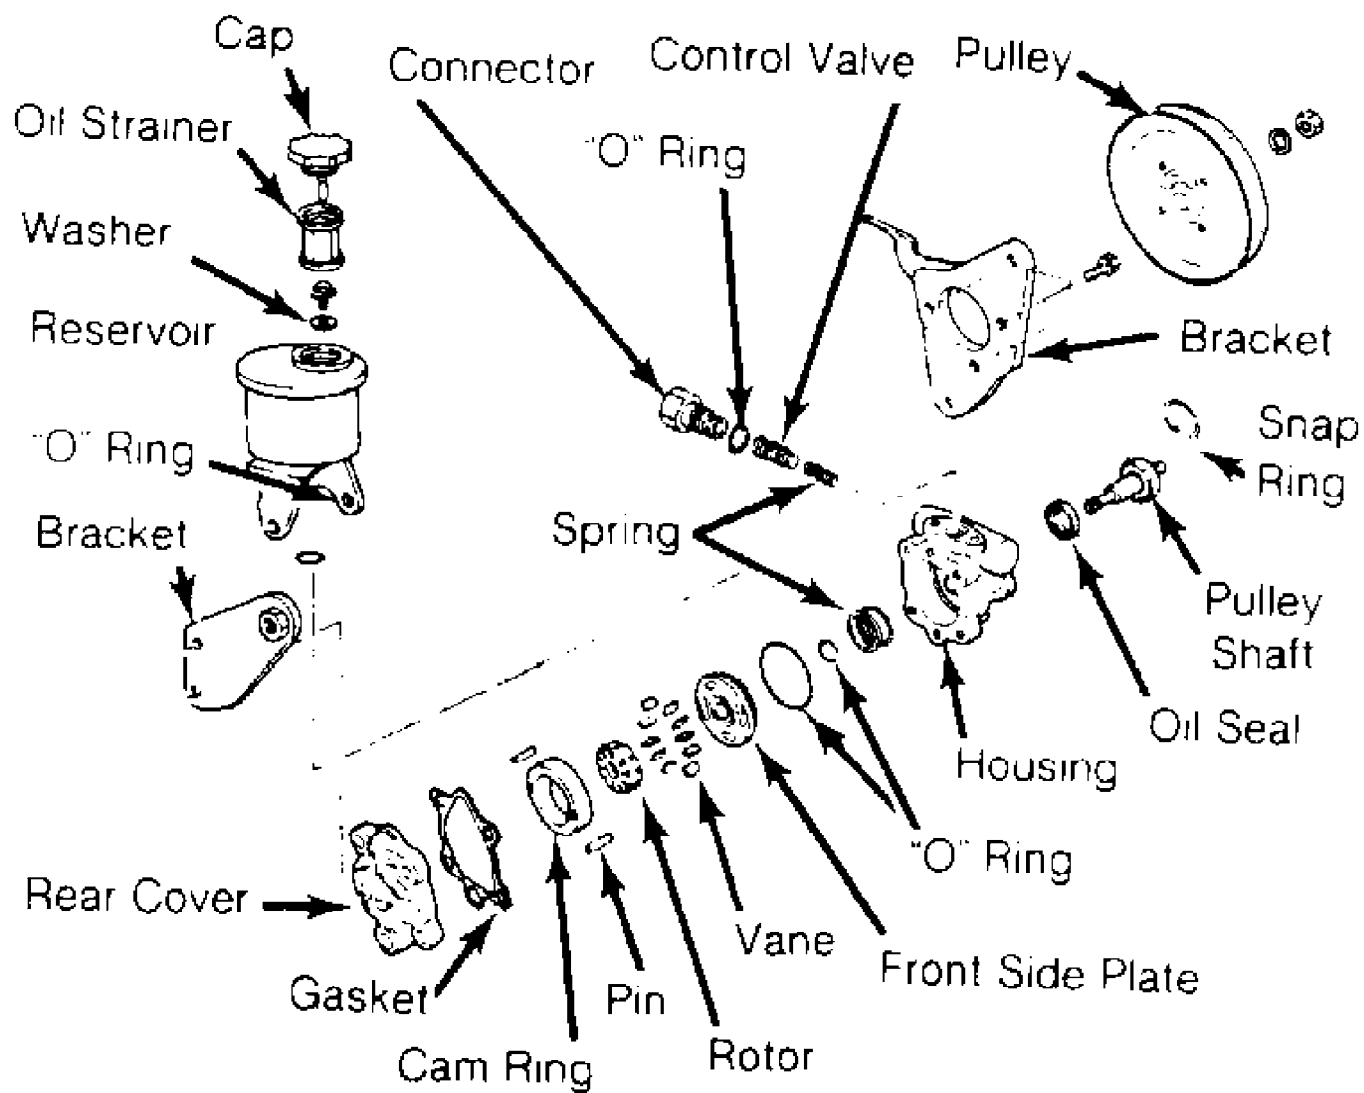

Fig. 6: Exploded View of Power Steering Pump (Pulsar NX & Sentra)
- 1) Ensure pump housing is cleaned before disassembly. Remove pulley nut and pulley. See Figs. 6 and 7. Scribe reference marks on housing, cam case (if equipped) and rear cover.
- 3) On Pulsar NX and Sentra, remove mounting bracket from front of pump. Remove pulley shaft bearing retaining snap ring. See Fig. 6. Remove shaft and bearing.